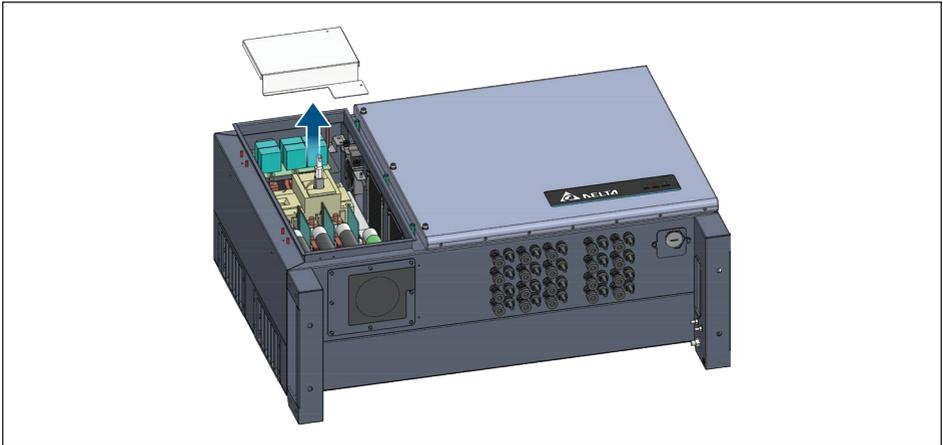

Figure 5-20: Remove the internal fan 2 shield cover
(See **Figure 5-20**, **5-21**, **5-22**, **5-23**)
- (1) Remove the shield cover. (shown in **Figure 5-20**)